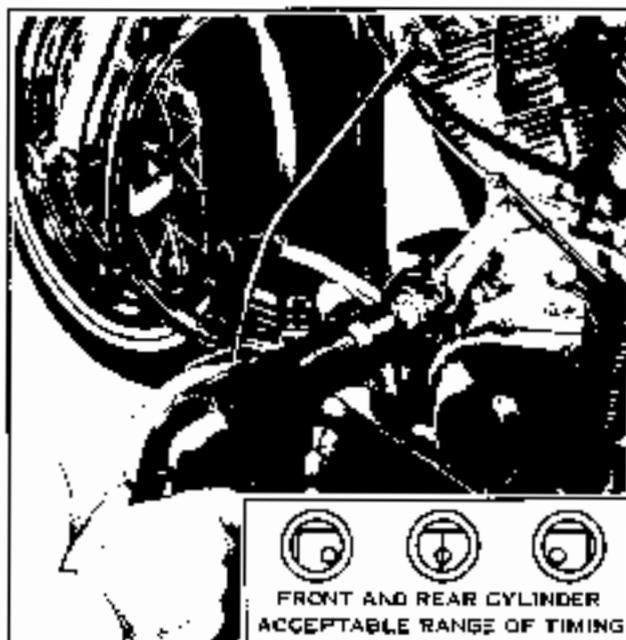

Figure 5-16. Checking timing with Strobe Light
Use a strobe flash timing light (timing gun) to view advanced timing mark (12) on flywheel through accessory plastic view plug screwed into timing inspection hole (11) while engine is running at 2000 RPM. Timing light leads should be connected to front spark plug, ground and positive red wire to battery terminal. Light will flash each time front cylinder spark occurs (see Figure 5-16). Loosen circuit breaker plate screws (6) just enough so circuit breaker plate (8) can be shifted using a screwdriver in notch (9) as light aimed into inspection hole (11) stops timing mark (12) in center of hole. Timing will retard 30° automatically when engine is stopped.
Rear cylinder advance timing mark is a single dot which should appear on or near the front cylinder advance timing mark while viewing with timing light. See figure 5-16.